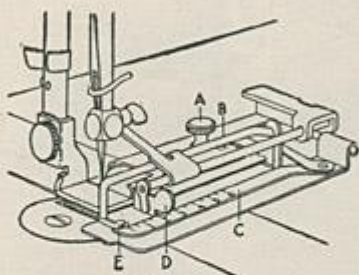
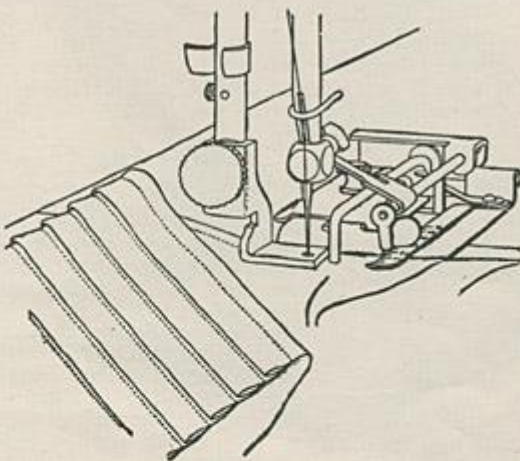

Figure 15
Figure 16
After attaching the tucker to the presser bar and adjusting it so that the width of the tuck, as well as the distance between the tucks, will be made the size desired, proceed to make the first fold by hand and crease it carefully for its entire length. After creasing the first fold, insert it into the tucker from the left, with the cloth to be tuck ed uppermost, as shown in Figure 16. Lower the presser bar and proceed to sew, keeping the crease against the guide (D), Figure 15. When the tuck is finished, flatten it away from the crease so that it lies in the
proper direction, and proceed in like manner for the next tuck, creasing it along the line made by the marker, always placing the edge of the last tuck under the hook in front of the marker (see letter E in Figure 15, above). This is done by moving the goods just a little to the right and back again without raising or lifting the material.